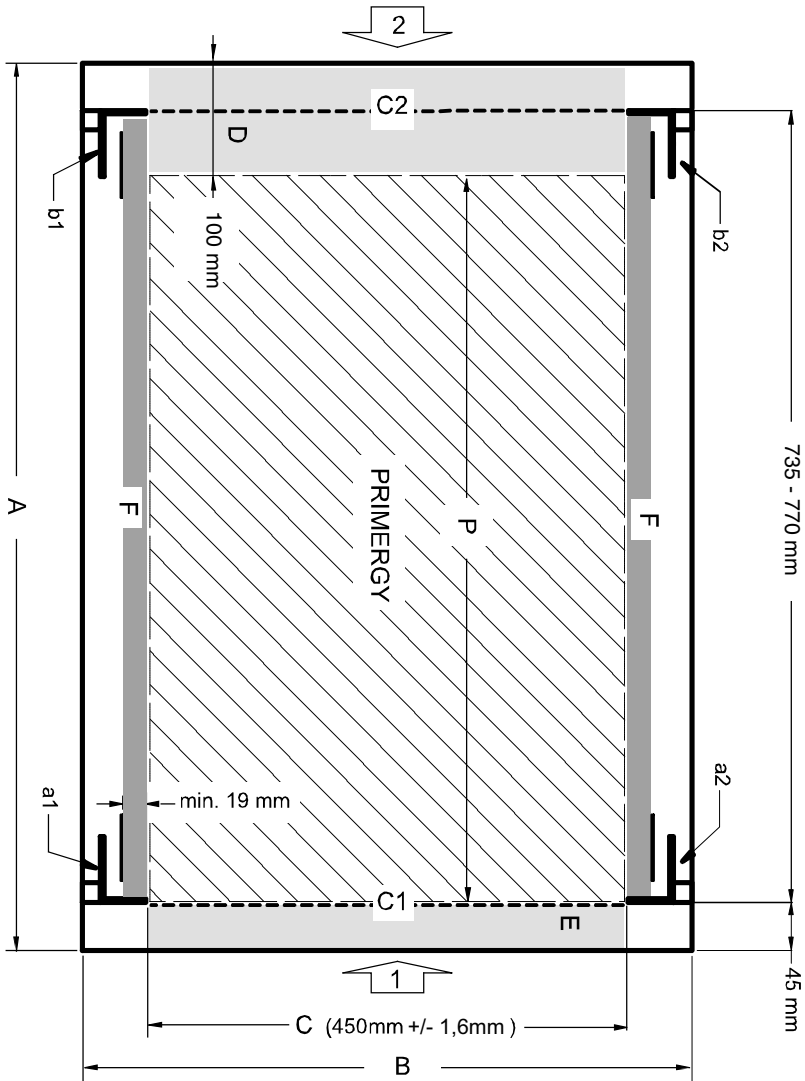

Figure 6: Mechanical requirements
– Installation dimensions (see the dimensions shown in figure 6 on page 49):